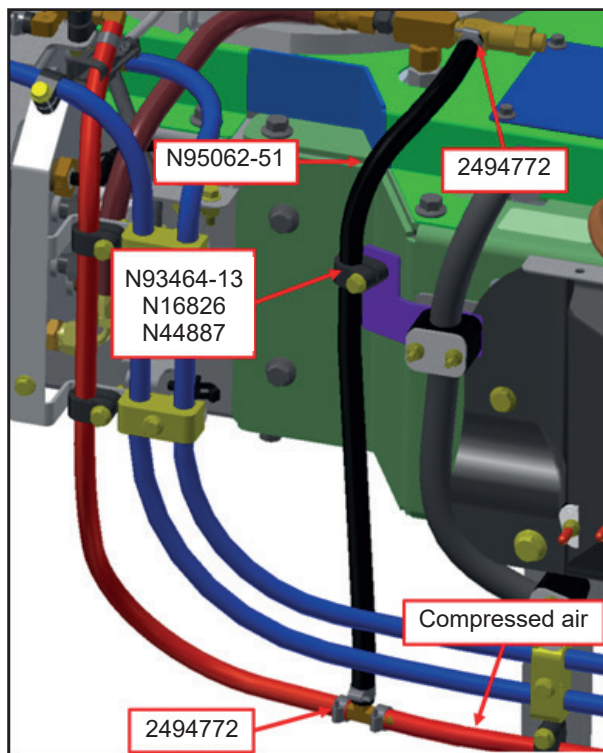

Figure 8 - Installation of Relief Valve Hose
- 1.15. Secure all the hose connections with clamps 2494772 (see figure 8).